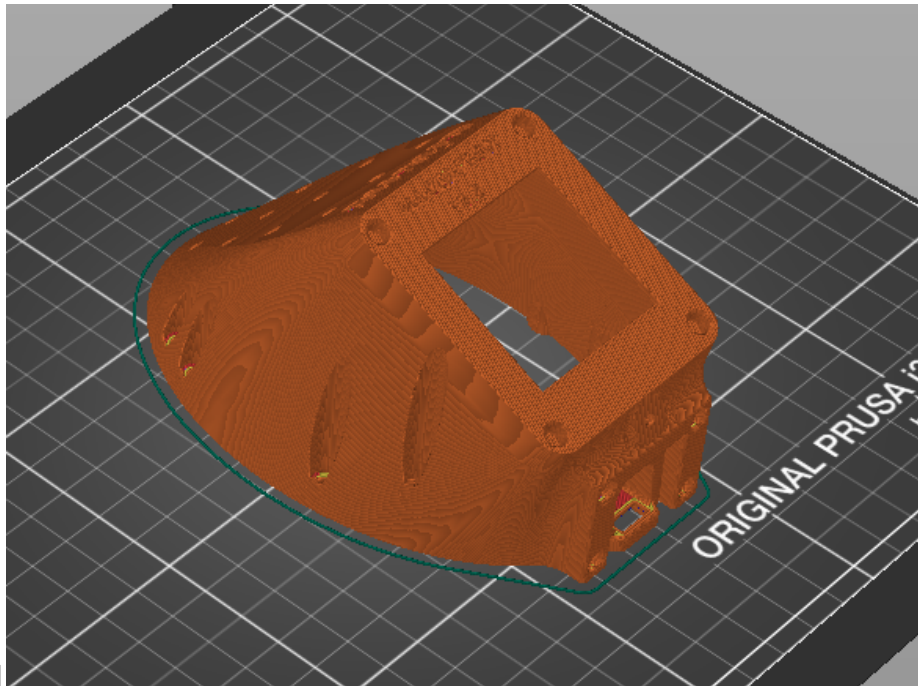

Figure 69: STL model of part *Bubble Gripper Body* in slicer
2. Print the *Bubble Gripper Body* (Fig. 69) using the following settings: